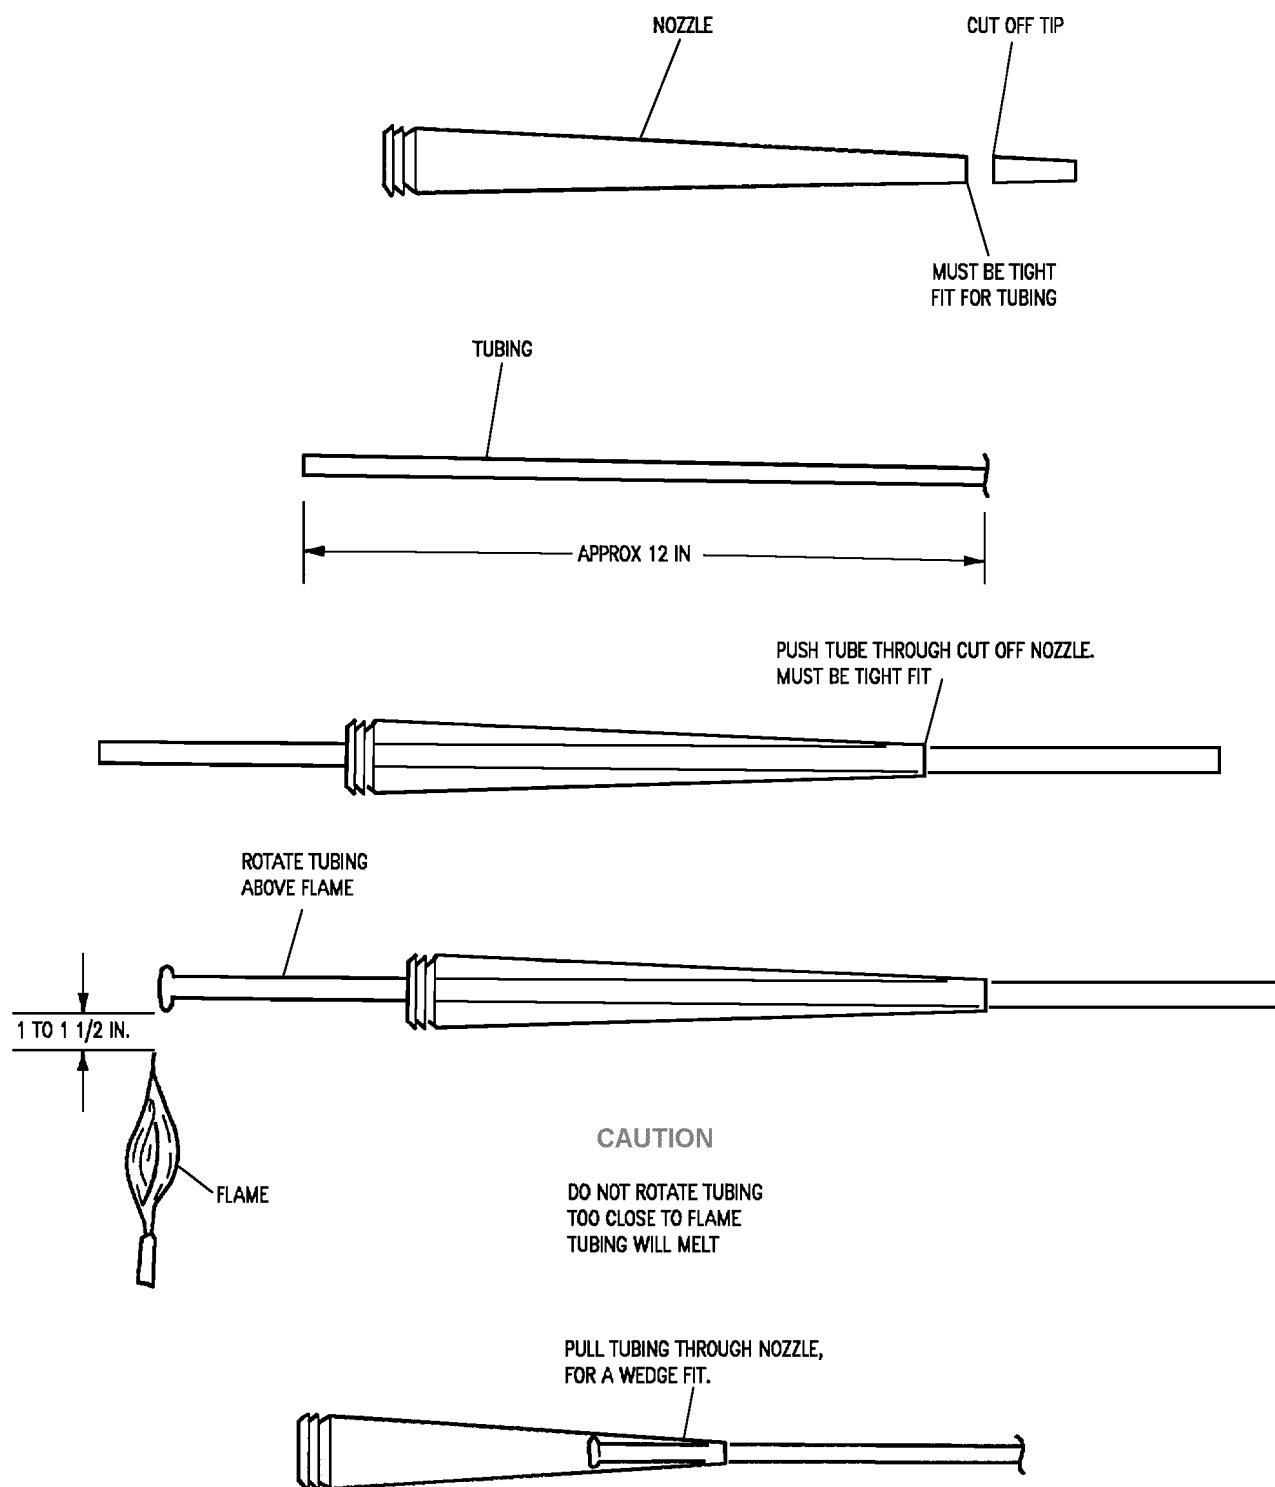

Figure 2. Fabrication of Injection Nozzle
9. FABRICATION OF INJECTION NOZZLE. See Figure 2.